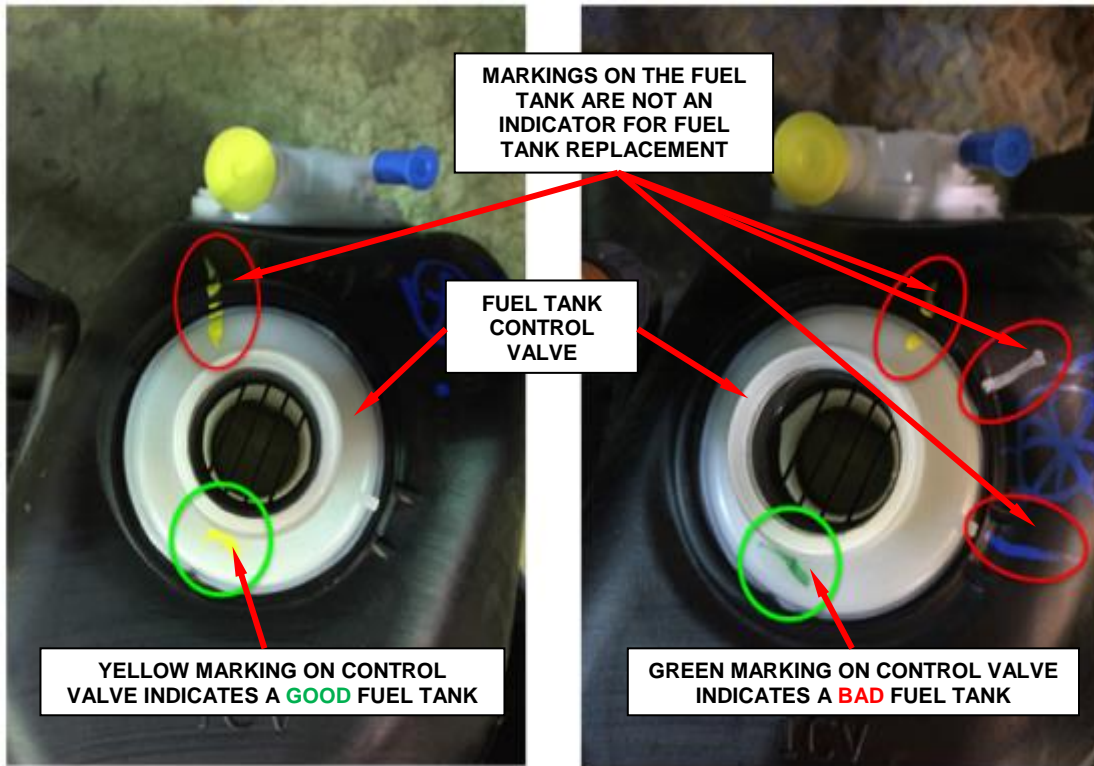

Figure 2 – Inspect Fuel Tank Control Valve for Marking
- If the fuel tank control valve has a **yellow** paint mark, **no further action is required** (Figure 2). Lower the vehicle and return the vehicle to the customer.